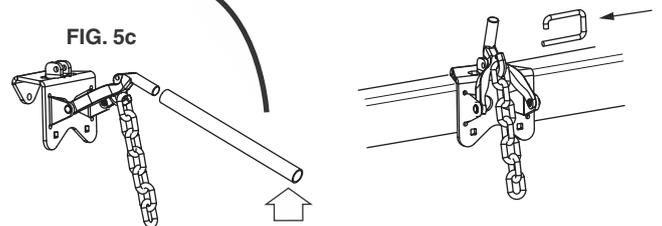

FIG. 5d
- Measure the vehicle's front and rear wheel arch height (**FIG. 5d**). Calculate the difference between these two figures. Compare this figure with that obtained in STEP 1A. If this figure is not similar, adjust the number of links that the Spring Bars are held up by. Try to get the two figures as close as possible to each other by adjusting the Chains.